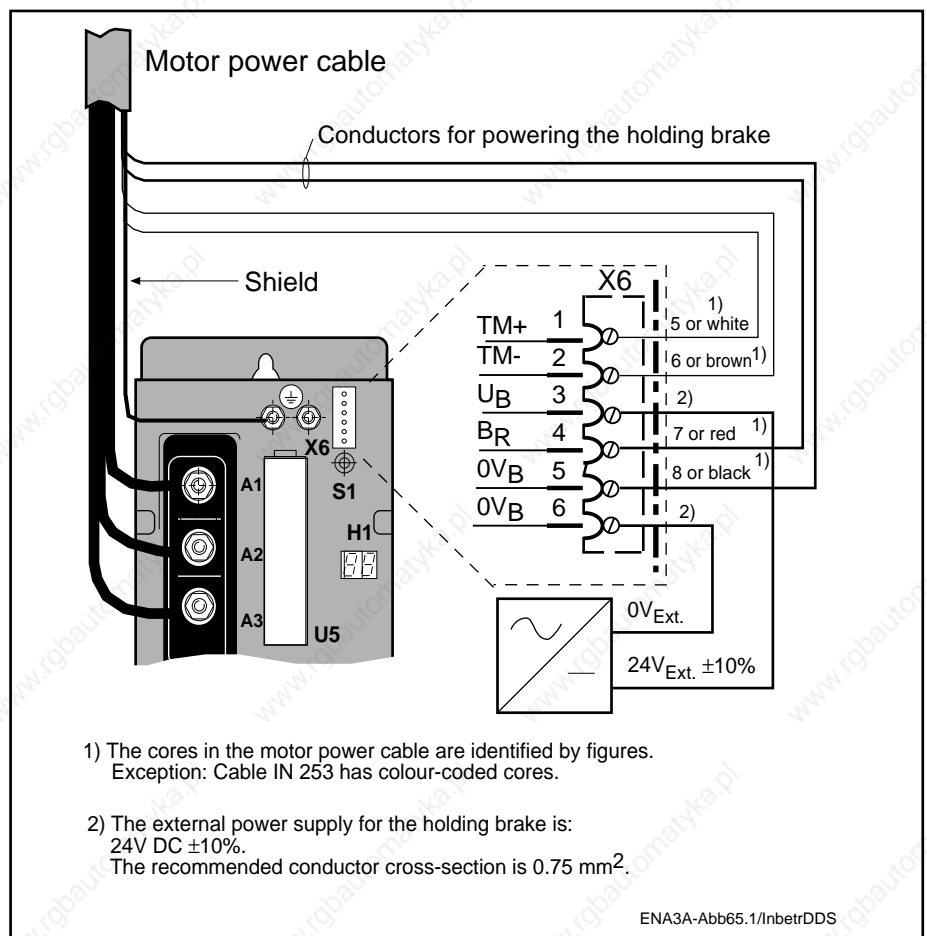
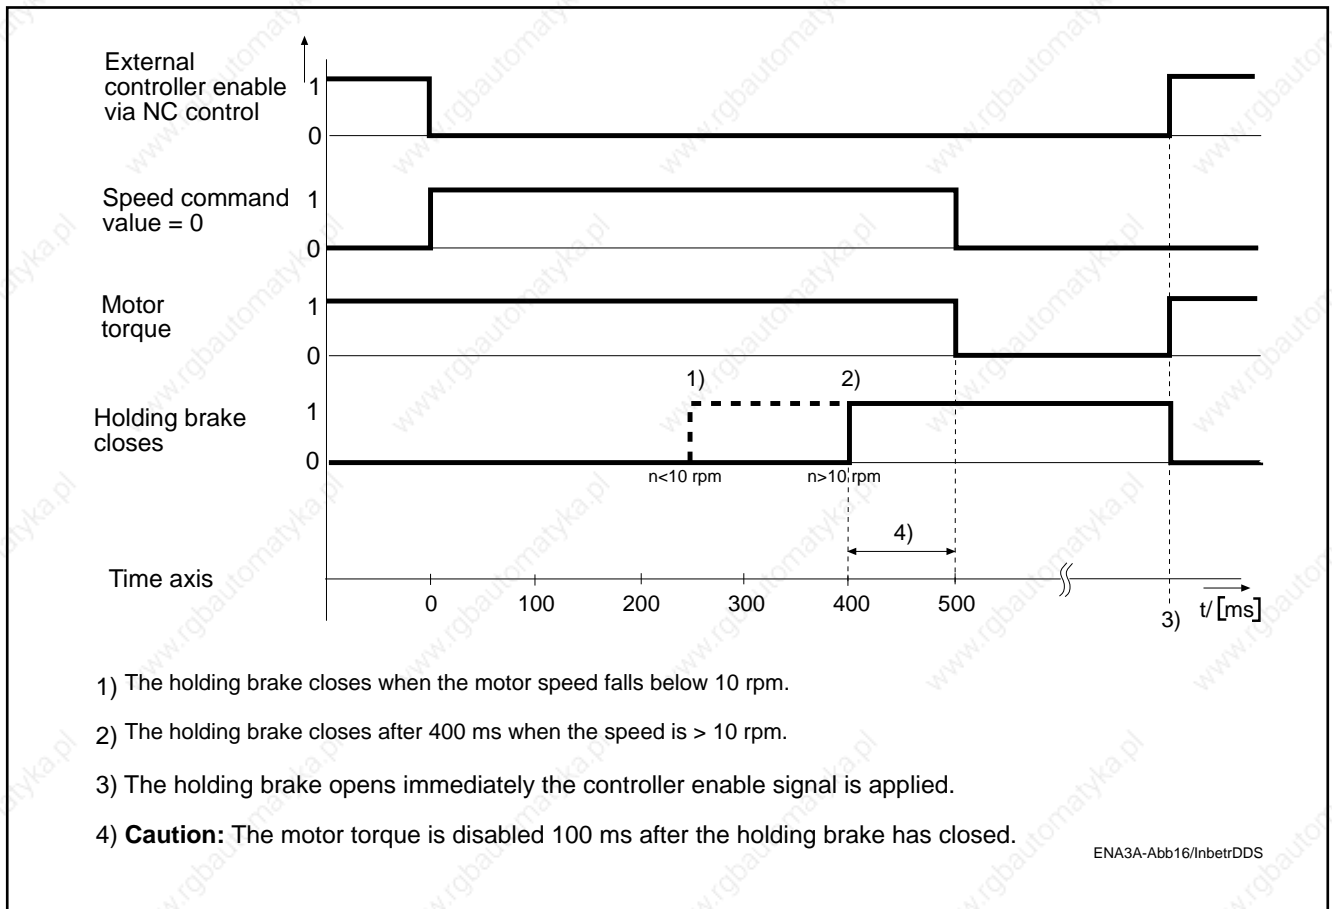
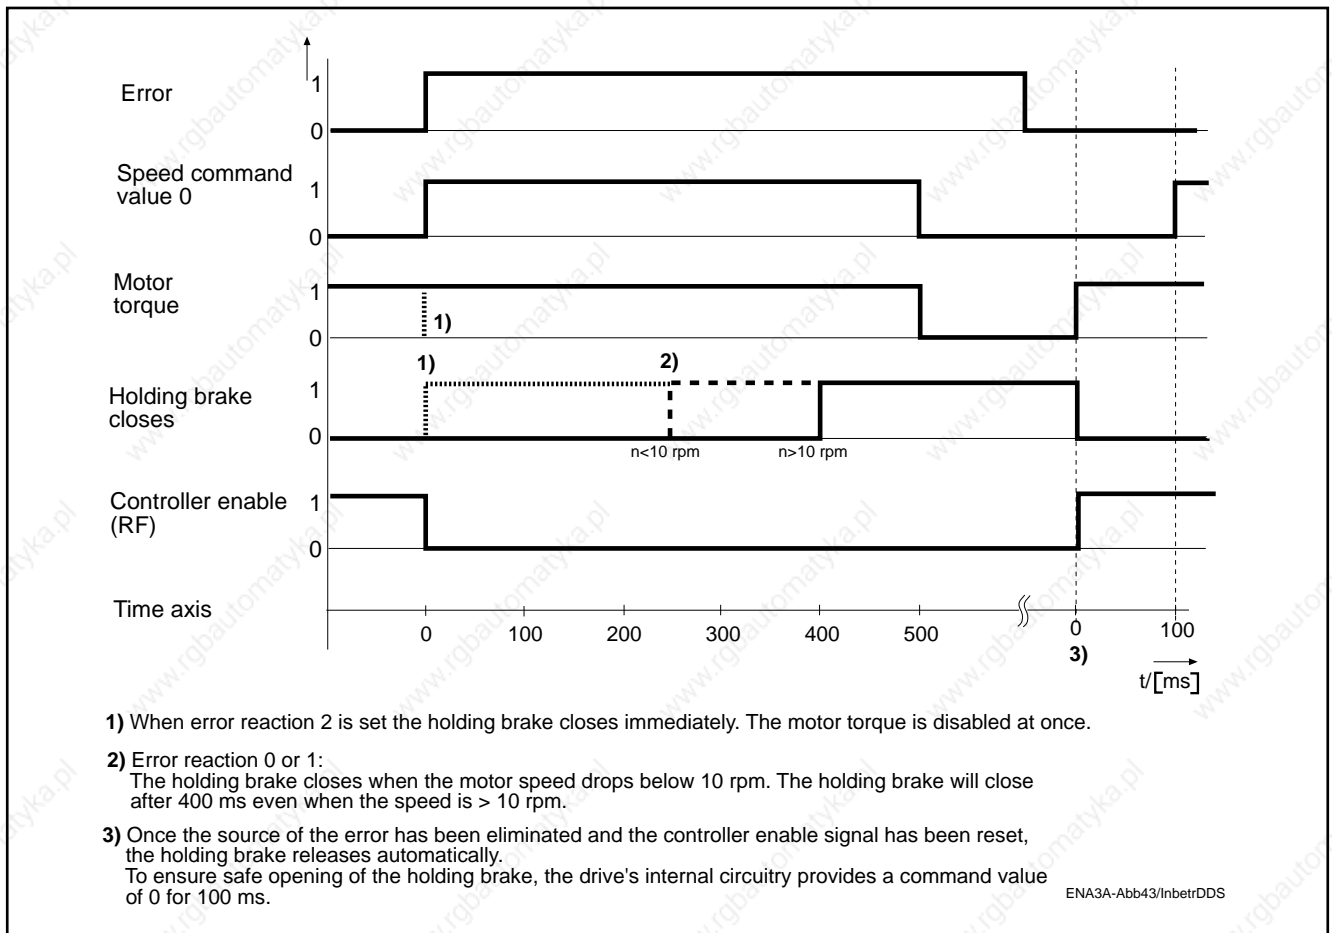

Fig. 64: Connecting up the holding brake to terminal block X6
Fig. 65: Time sequence of holding brake status corresponding to controller enable status
Fig. 66: Reaction of the holding brake under different error reactions.
When the holding brake is de-energized a force acts on the braking/armature disc of the servo motor, thus safely immobilizing the axis. The holding brake is activated by the drive controller according to the status of the controller enable signal (see Fig. 65) and the preset error reaction (see Fig. 66). To power up the holding brake, apply a DC voltage from an external source to the terminal block X6 on the drive controller (see Fig. 64).
**Procedure:** (see Fig. 64)
7. Reconnect the cores to X6 as shown in Fig. 64.